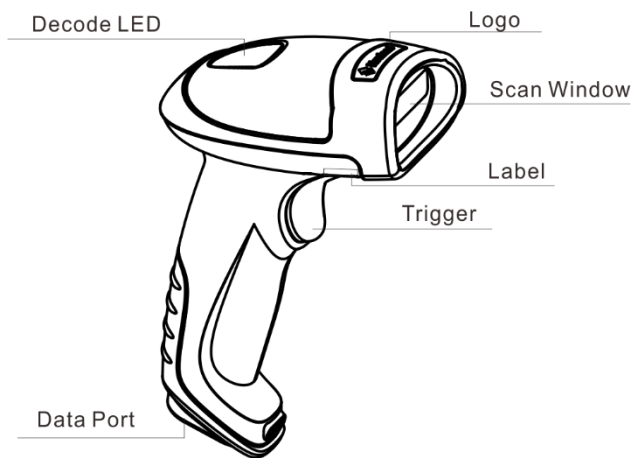

Fig. 1-1
1. Plug the RJ45 connector into the data port (see Fig.1-1) on the scanner.